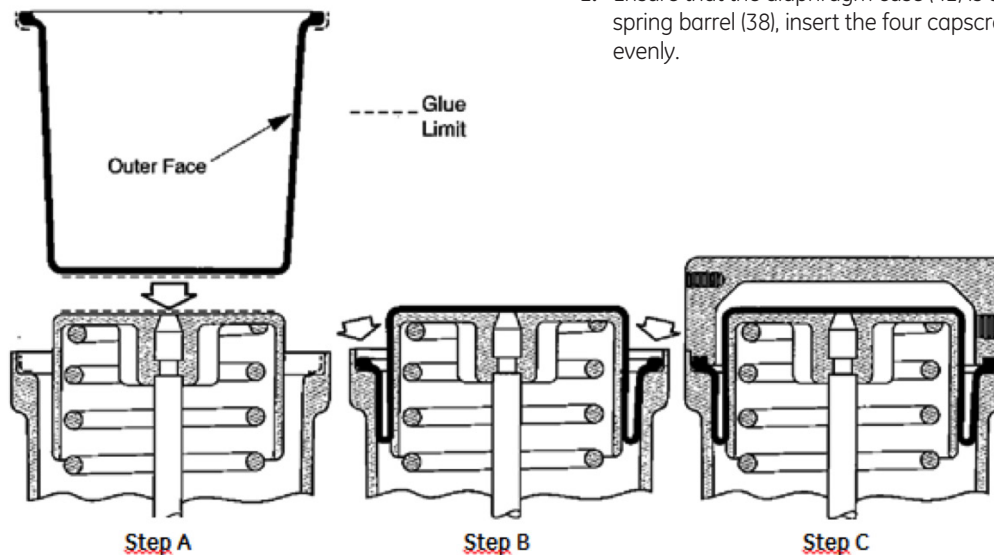

Figure 7 - Method 2
Note: The inner face of the diaphragm in contact with the piston is marked with the inscription "piston side"; be careful to keep coating of the Neoprene with limits corresponding to the flat part of the piston (Figure 7-Method 2, Step A).
- H-2. Center and adhere the diaphragm (40) on the piston (43) (Figure 7- Method 2, Step A).
- I-2. Roll the diaphragm (40) carefully inside the spring barrel (38) until the bead engages the spring barrel groove (38). Press lightly and evenly the bead so as to get with the two Neoprene-coated part stuck together. Check there is no twisting of diaphragm inside the spring barrel (Figure 7- Method 2, Step B).
- J-2. Adjust diaphragm case (42) to the spring barrel (38) after checking that air connection is on the correct side and the threaded holes of diaphragm case (42) and the holes of the spring barrel (38) line up.